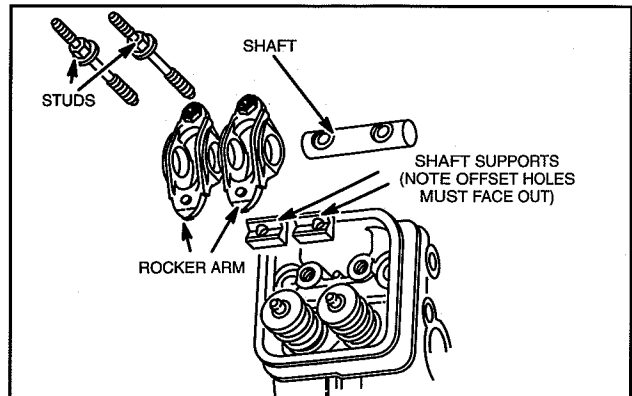

Fig. 15 – Install Rocker Arms – Early Style
Note: Rocker shaft support holes are offset. Install with holes facing ends of rocker shaft, Fig. 15.
2. Assemble rocker arms, shaft, supports and studs and install on cylinder head, Fig. 15.